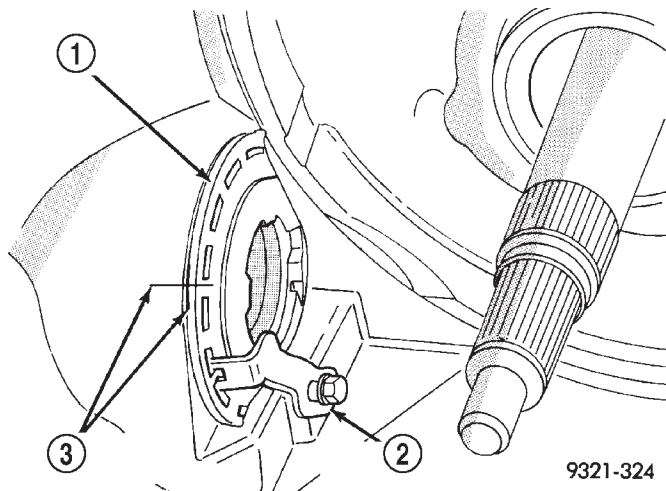

Fig. 108 Indexing Inner Adjuster
- (5) Index the inner differential adjuster with a cross hair as shown in (Fig. 108).